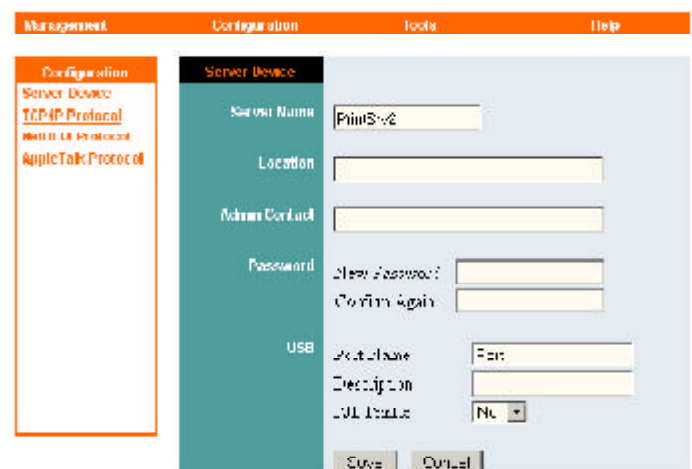

Fig 3.3
Step 4 Write down on a piece of paper the **Port name** you want to use. Be sure to click **Save** when you are done editing the names. See Fig. 3.3